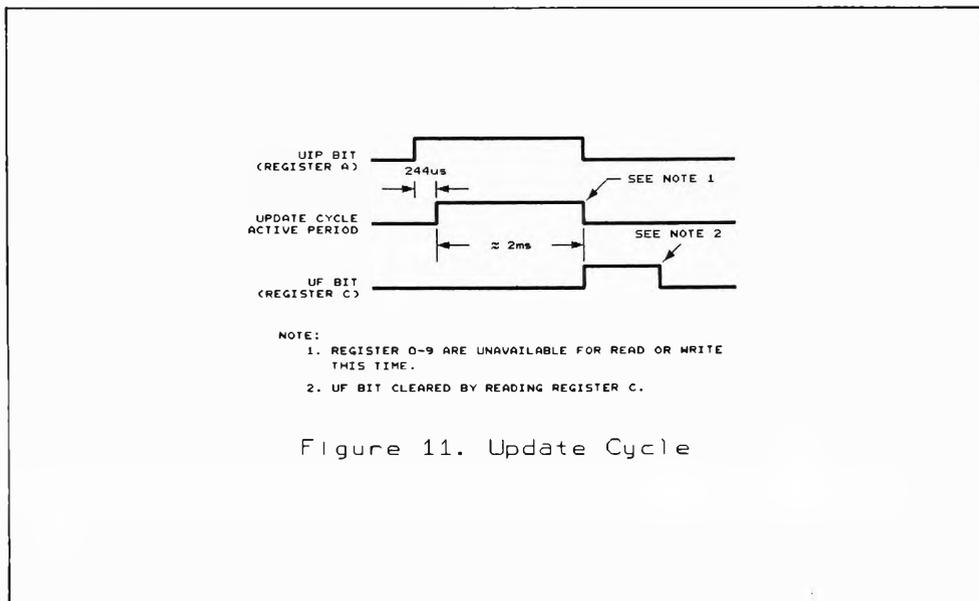

Figure 11. Update Cycle
real time clock and the CPU, a flag is provided in register 0AH to alert the user of an update in progress cycle. This update in progress bit (UIP) is asserted 244us before the actual start of the cycle and is maintained until the cycle is complete. Once the cycle is complete the UIP bit will be cleared and the update flag (UF) in register 0CH will be set. Figure 11 illustrates the update cycle. CPU access is always allowed to registers 0AH through 0DH during update cycles.